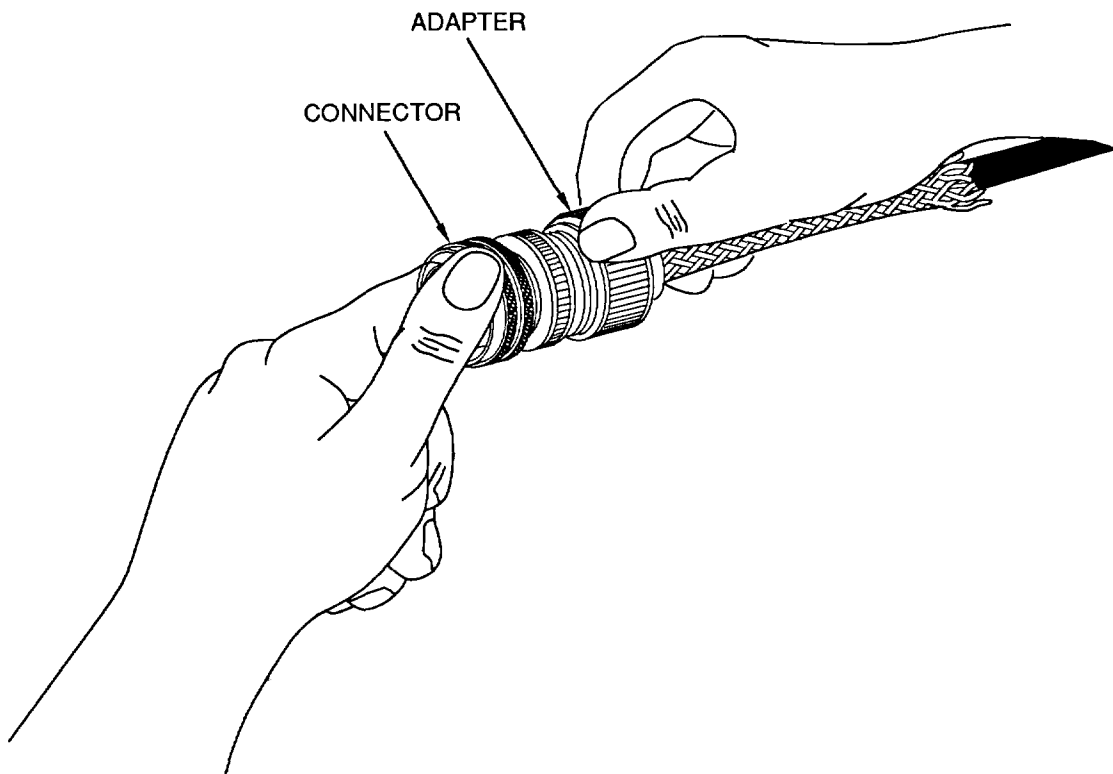

Figure 18. Adapter to Connector Installation
- g. Attach adapter to connector so harness does not twist (Figure 18).